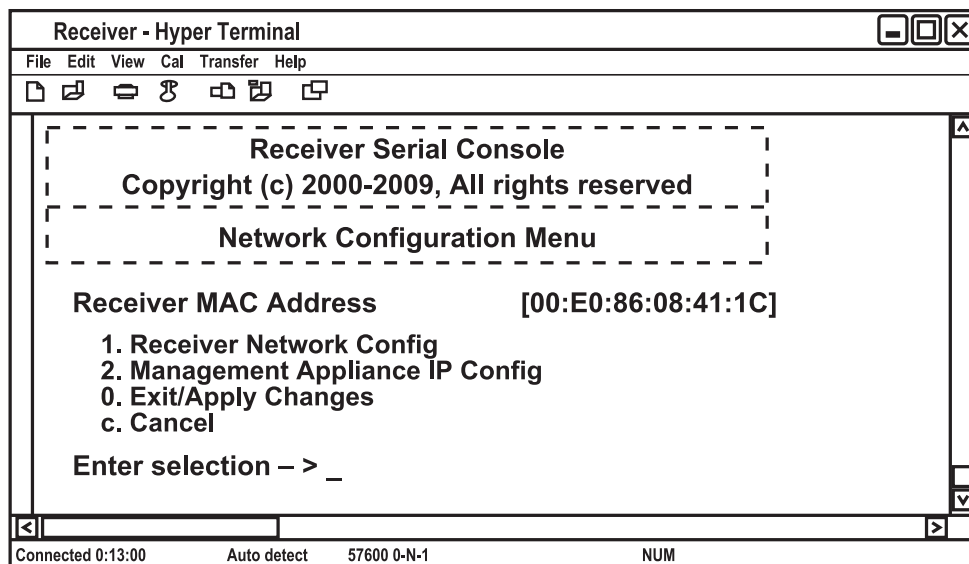

Figure 4-15. Network Configuration Menu (Desktop Mode).
6. Type the password and press "Enter." The Receiver Main Menu (Desktop Mode) will appear (see Figure 4-15).